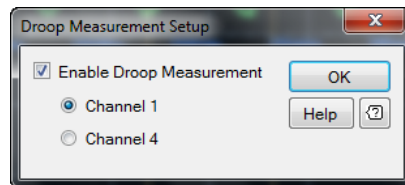

Figure 2-88 Droop measurement Setup dialog
- 2 The Droop Measurement Setup dialog is displayed as shown in Figure 2-88.